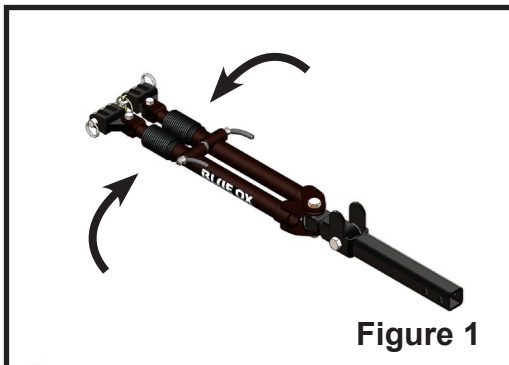

Figure 1
1. Swing the legs inwards towards each other (Figure 1).